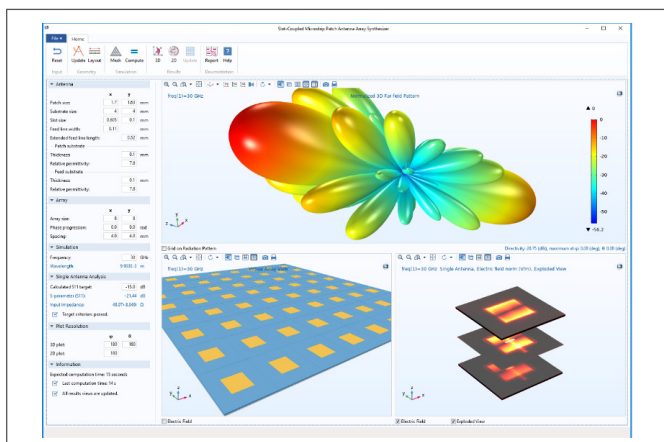

Figure 6: Simulation app for quickly estimating the far-field pattern of a phased array antenna using a full-wave single antenna simulation and array factor.
Simulation provides virtual analysis platforms for a wide range of test scenarios. However, learning how to use electromagnetics simulation software may not be the best use of time for everyone in an organization. Limited training and access to simulation software may restrict usage of electromagnetics simulation tools to a small set of expert users. Completed numerical EMI and EMC test models may frequently need new input parameters in order to adjust to a real-world test environment's variations. The need for updating boundary conditions, mesh, and postprocessing settings outside of the simulation group can cause unexpected delays in the development cycle. The good news is that simulation software has evolved to accommodate specialists who are not dedicated simulation engineers. The simulation models can be converted to easy-to-use apps (*Figure 6*). An app has a straightforward, specialized user interface (UI) and can be shared with colleagues and customers through existing web browsers or as a standalone executable file. Such standalone apps do not require purchasing extra software licenses and can run regardless of the operating system. A large number of people involved in EMI test projects can easily access the virtual test kit provided by an app and optimize the product without learning how to use the software behind the curtain.